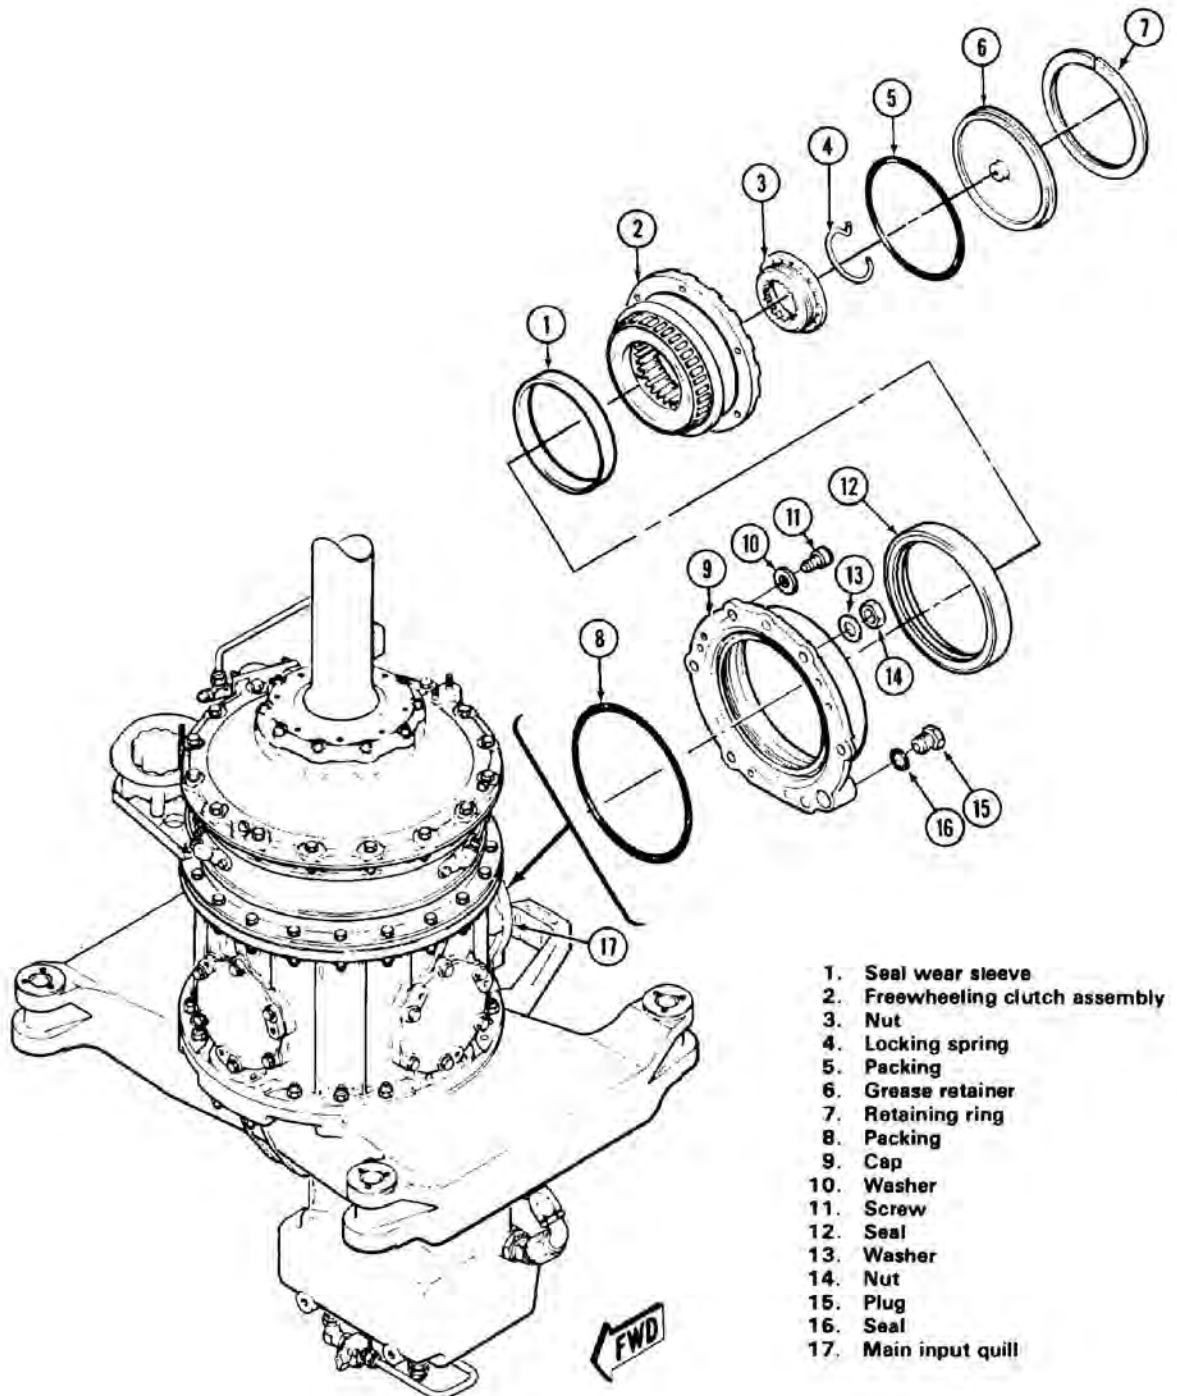

Figure 63-47. Input Drive Quill (205-040-263-101)
63.7.4.2.2 Remove retaining ring (7, Figure 63-47) and grease retainer (6). Remove and discard packing (5).